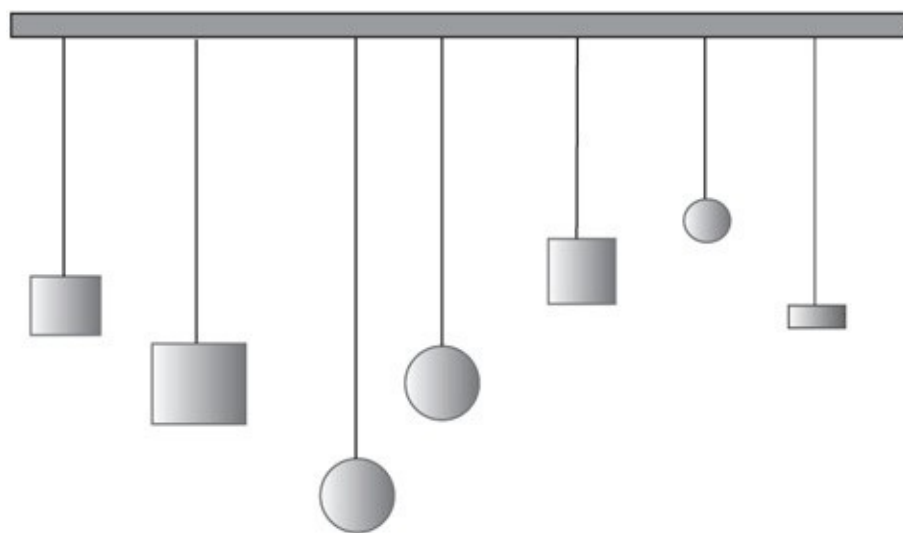

Figure 69-1 *Resonant frequency depends only on string length.*
3. Attach the dowel to the two upright posts of the ring stands using the clamps. Leave enough space, so all the masses are free to swing without hitting the table, which the ring stands are placed on. The dowel should be slightly flexible, but constrained by the ring stands, so it will not sway or swivel when the masses are swinging. See Figure 69-1.